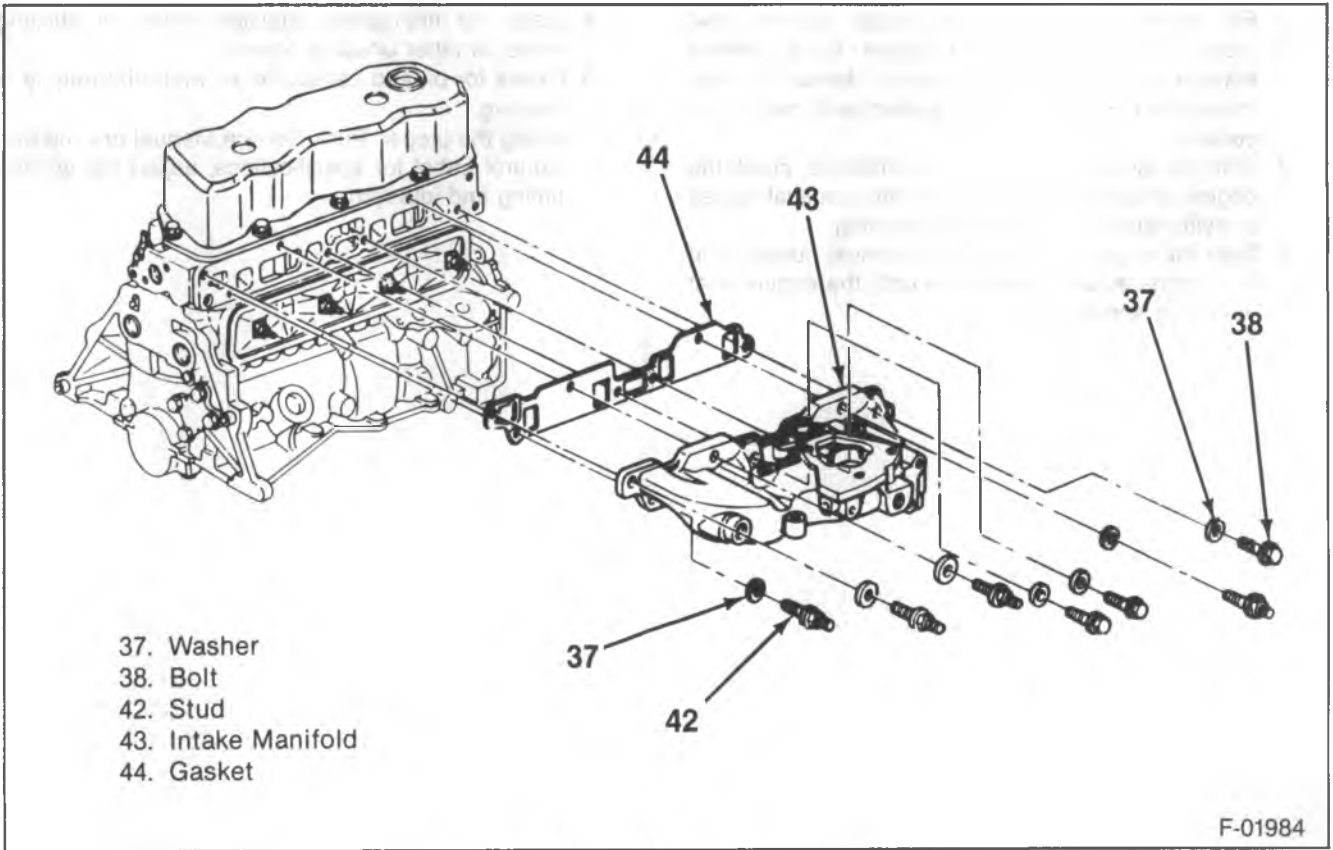

Figure 59—Intake Manifold Installation
Install or Connect (Figure 59)
- Apply sealant to the bolts indicated in figure 59.